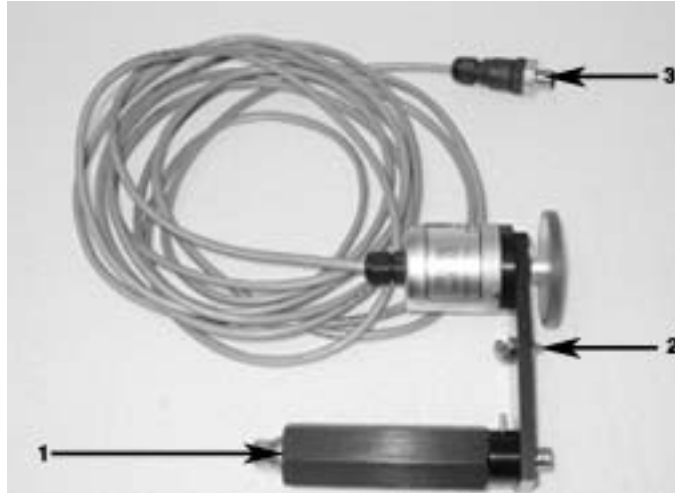

Figure 5
This procedure describes how to install an external encoder (Figure 5) for most conveyor systems.
2. Mount the encoder by attaching the encoder standoff (1, Figure 5) to the packaging machine, leaving the screws finger tight.
3. Attach the encoder bracket spring (2, Figure 5) to the pin in the encoder standoff. Rotate the standoff to apply enough drive force to cause the encoder wheel to rotate without slipping. Tighten the mounting screw.
5. Plug-cable connector (3, Figure 5) into the connector on the rear panel of the SmartLase.
6. Plug the encoder cable connector (4, Figure 5) into either of the pigtail cable connectors.